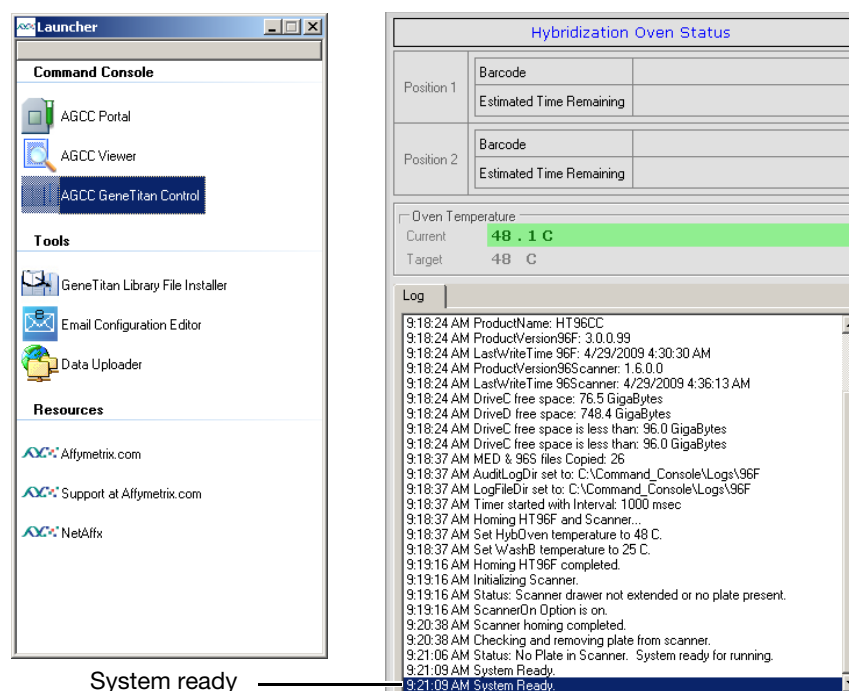

Figure 36 Launching AGCC and initializing the GeneTitan MC Instrument.
- Launch AGCC Launcher and select **AGCC GeneTitan Control** (Figure 36).